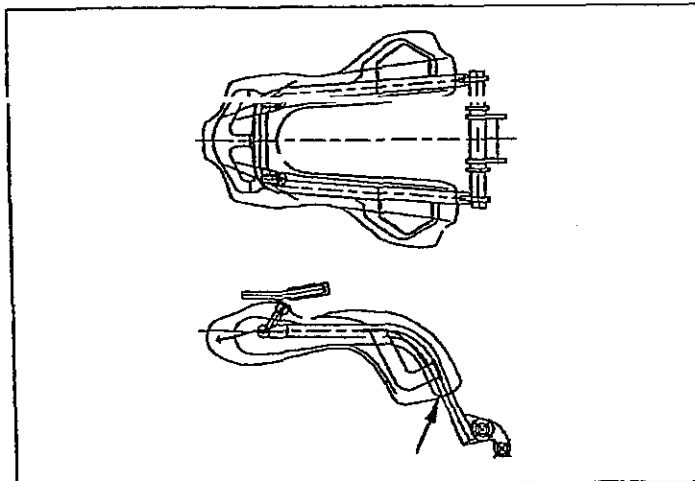

figure 4: Shoulder restraint
- 3 Visually check the shoulder restraint (figure 4) for cracks. Pay special attention to possible rust formations (figure 4/arrows) at the transition area between the PUR part and steel part.